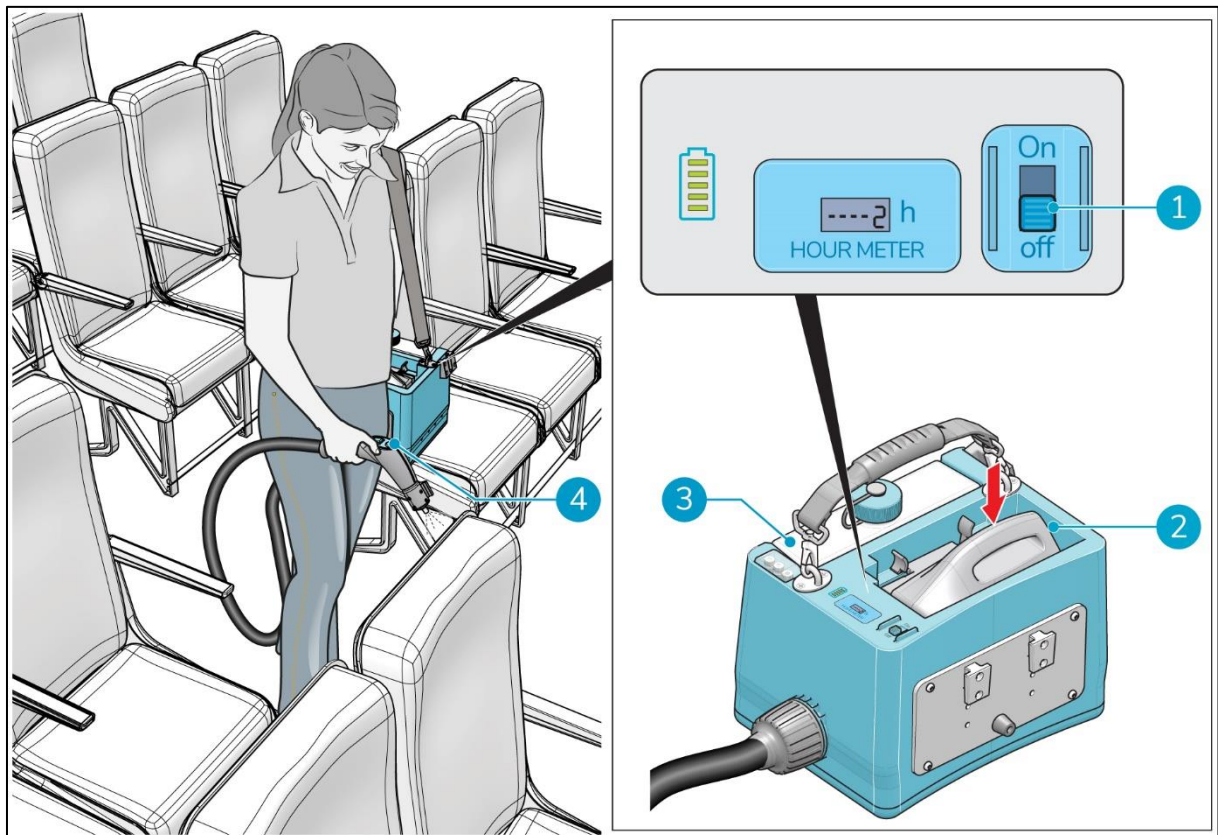

Figure 12
2. Ensure that the i-cover 1.0 is turned off. To do this check the ON/OFF switch on the i-cover 1.0 body (Figure 12, pos 1) and on the spray gun (Figure 12, pos 4).
3. Insert the battery in the slot (Figure 12, pos 2), until you hear a "click". The battery is now fixated.
4. Ensure that the disinfectant tank (Figure 12, pos 3) is in place.
5. Press the ON/OFF switch (Figure 12, pos 1) to turn on the i-cover 1.0. The hour meter and the battery power status display light up. See also section 2.1.
7. Press the ON/OFF switch on the spray gun (Figure 12, pos 4).